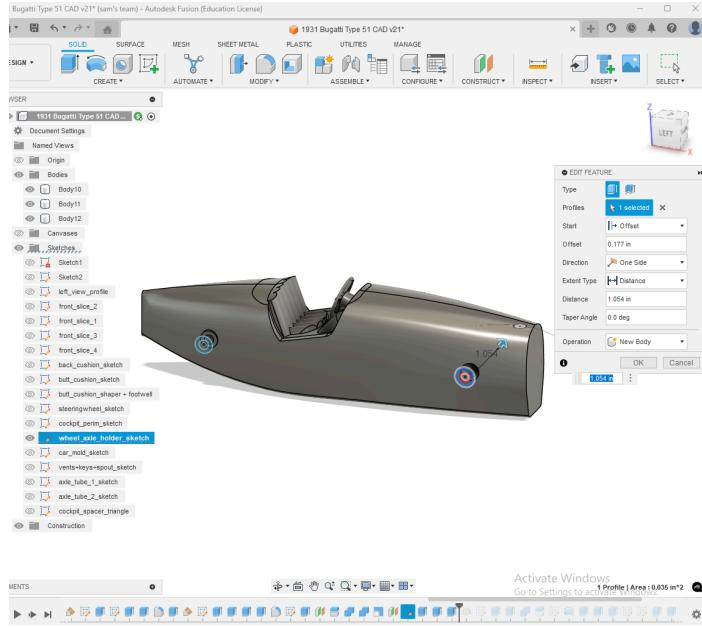

Fig. 26: Extrusion of outer concentric ring to form wheel axle holder
2. Extrude the outer ring (excluding the 0.125" hole for the axle) through the car body. Make this a new part as opposed to joining it with the fuselage, as this will be 3D printed and the rest of the car will be cast around it. This is shown in **Fig. 26**.